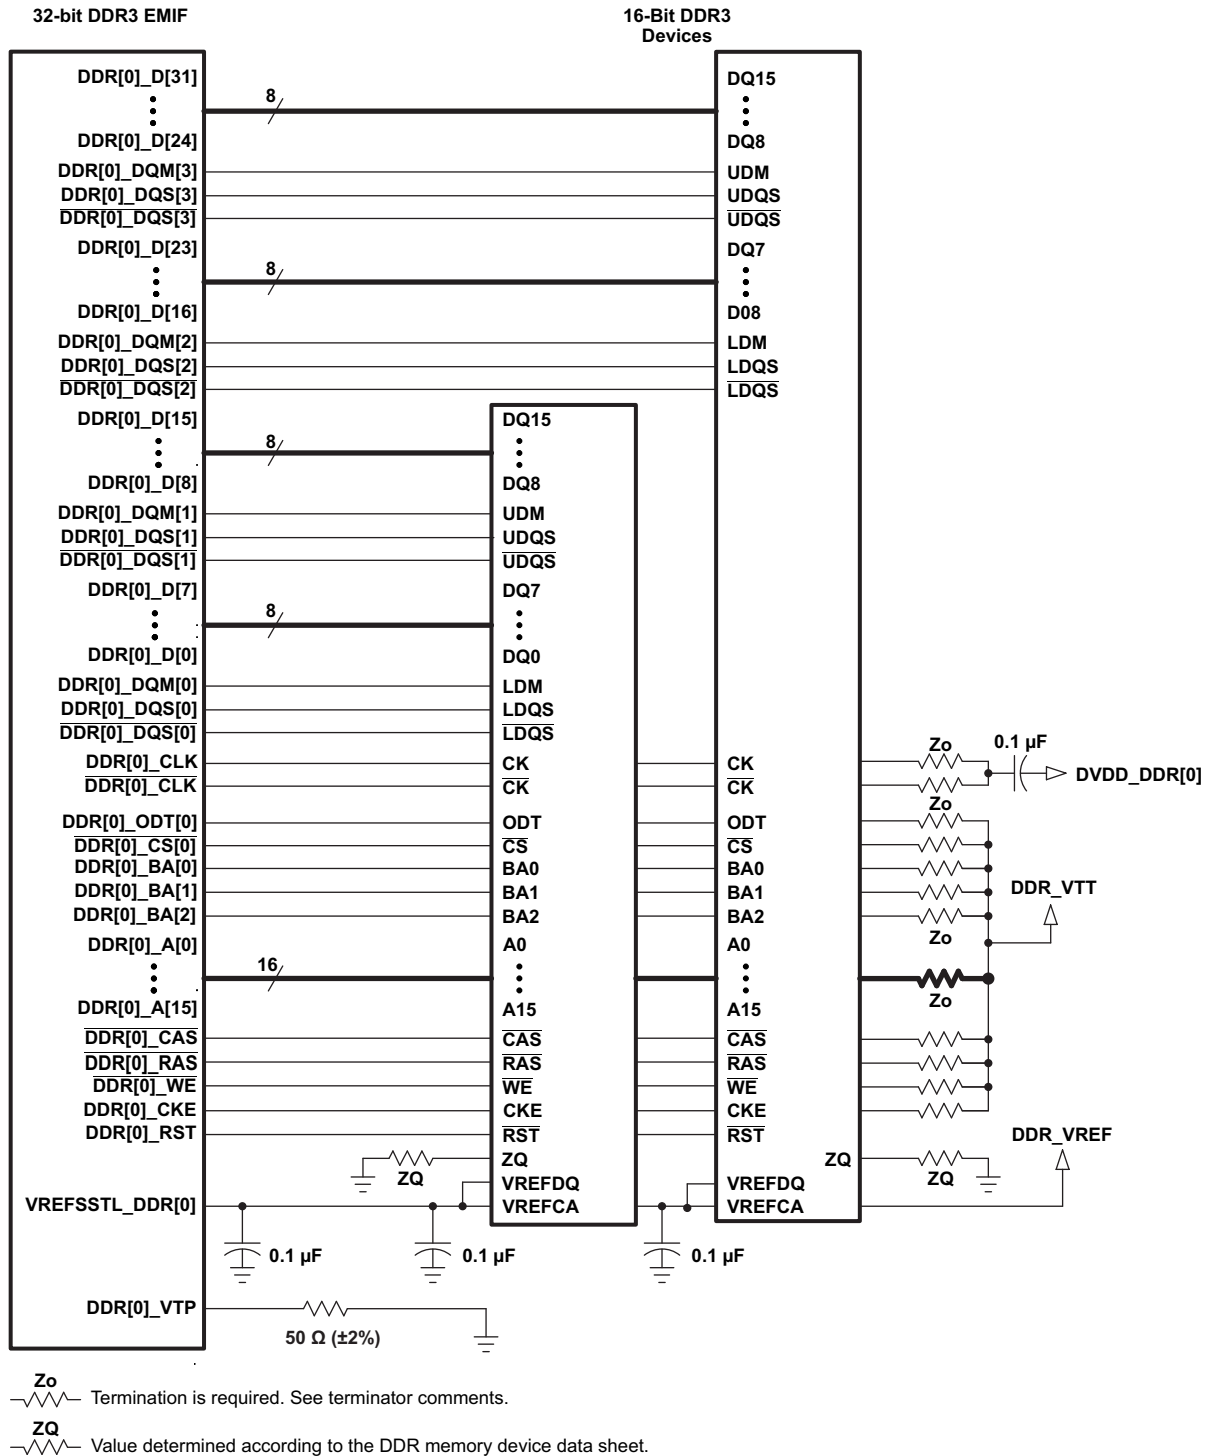

Figure 8-57. 32-Bit, One-Bank DDR3 Interface Schematic Using Two 16-Bit DDR3 Devices
The DDR3 interface schematic varies, depending upon the width of the DDR3 devices used and the width of the bus used (16 or 32 bits). General connectivity is straightforward and very similar. 16-bit DDR devices look like two 8-bit devices. Figure 8-57 and Figure 8-58 show the schematic connections for 32-bit interfaces using x16 devices.
Note that the 16-bit wide interface schematic is practically identical to the 32-bit interface (see Figure 8-57 and Figure 8-58); only the high-word DDR memories are removed and the unused DQS inputs are tied off. The processor `DDR[0]_DQS[2]` and `DDR[0]_DQS[3]` pins should be pulled to the DDR supply via 1-k Ω resistors. Similarly, the `DDR[0]_DQS[2]` and `DDR[0]_DQS[3]` pins should be pulled to ground via 1-k Ω resistors.
(1) DDR3 speed grade depends on desired clock rate. Data rate is 2x the clock rate. For DDR3-800, the clock rate is 400 MHz.
(2) DDR3 devices with higher speed grades are supported; however, max clock rate will still be limited to 533 MHz as stated in Table 8-61 *Switching Characteristics Over Recommended Operating Conditions for DDR3 Memory Controller*.
(3) For valid DDR3 device configurations and device counts, see Section 8.14.3.3, Figure 8-57, and Figure 8-58.